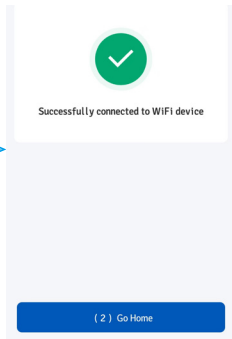

Figure 32
06. Wait a few seconds. The app will then display "Successfully connected to the WiFi device", as shown in Figure 32.